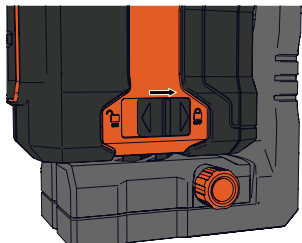

Figure 19
- Slide the locking compensator to the right to the locked (OFF)  position to power off the unit. (Figure 19)